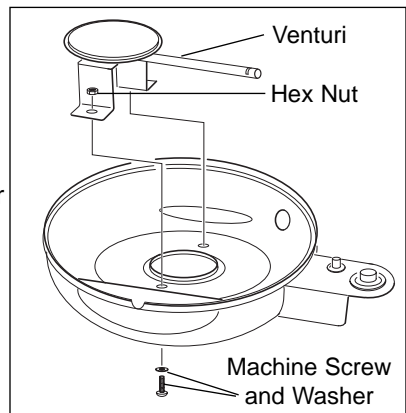

Figure 12
2. Refer to Figure 12 and locate the two machine screws that secure the Burner Assembly to the Grill. Loosen and remove these screws, making sure you retain the screws, washers and hex nuts for reassembly.
3. Carefully pull back on the Burner Assembly, disengaging the venturi from the Regulator Assembly. Please see Figure 12. Since the Ignitor is still attached to the Burner Assembly, use care to avoid stressing the cable. There is enough slack available to allow you to look into the end of the venturi and clean with a pipe cleaner if needed.